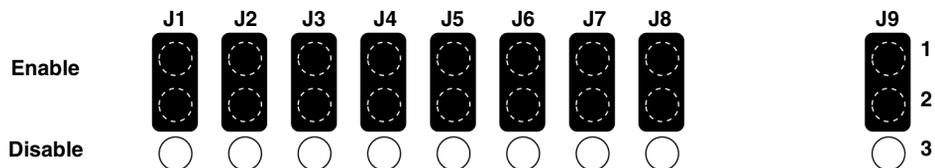

Figure 2.3: PCI Add In Card Device Jumper Configuration
2. Configure the PCI device jumpers on the PCI Add In Card. These jumpers allow you to selectively disable certain components of your Digital Desktop System. The factory default is set with all components enabled. Figure 2.3 identifies the enable/disable positions for each jumper. Table 2.1 identifies which PCI devices are controlled by each jumper.